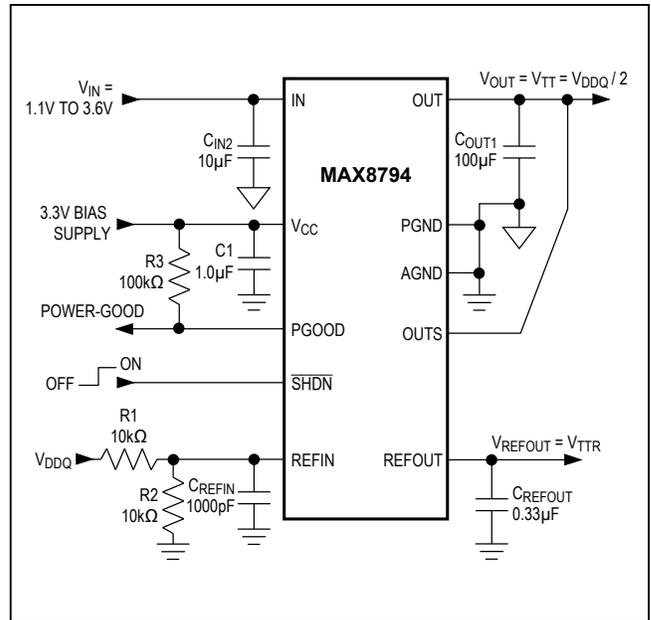
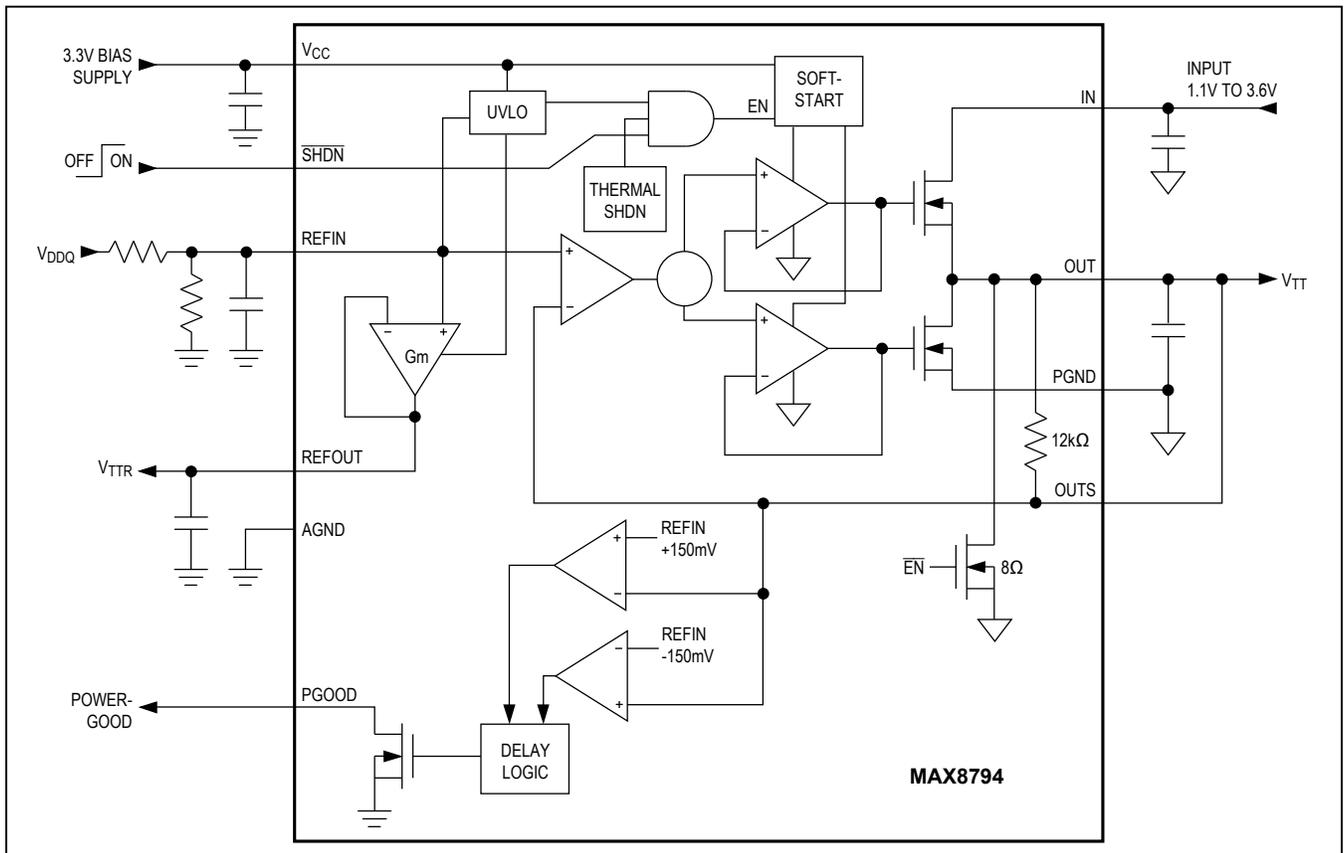

Figure 1. Standard Application Circuit
Figure 2. Functional Diagram
( $V_{IN} = 1.8V$ ,  $V_{CC} = 3.3V$ ,  $V_{REFIN} = V_{OUTS} = 1.25V$ ,  $\overline{SHDN} = V_{CC}$ , circuit of Figure 1,  $T_A = -40^\circ C$  to  $+85^\circ C$ , unless otherwise noted. Typical values are at  $T_A = +25^\circ C$ .) (Note 1)
(Circuit of Figure 1. TA = +25°C, unless otherwise noted.)
The MAX8794 is a low-voltage, low-dropout DDR termination linear regulator with an external bias supply input and a buffered reference output (see Figure 1 and Figure 2).  $V_{CC}$  is powered by a 2.7V to 3.6V supply that is commonly available in laptop and desktop computers. The 3.3V bias supply drives the gate of the internal pass transistor, while a lower voltage input at the drain of the transistor (IN) is regulated to provide  $V_{OUT}$ . By using separate bias and power inputs, the MAX8794 can drive an n-channel high-side MOSFET and use a lower input voltage to provide better efficiency.
The MAX8794 regulates OUTS to the voltage set at REFIN, making the MAX8794 ideal for memory applications where the termination supply must track the supply voltage. Typically, REFIN is set by an external resistive voltage-divider connected to the memory supply (VDDQ) as shown in Figure 1.
Drive SHDN low to disable the error amplifier, gate-drive circuitry, and pass transistor (Figure 2). In shutdown, OUT is terminated to AGND with an 8 $\Omega$  MOSFET. REFOUT is independent of SHDN. Connect SHDN to VCC for normal operation.